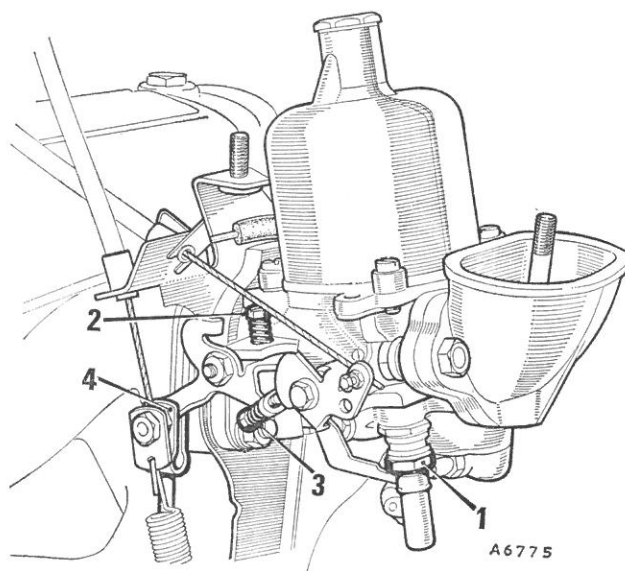

Fig. Da.1
- (6) Connect a tachometer.
- (7) Select 'N' on the gear lever quadrant and apply the hand brake.
- (8) Run the engine until it attains its normal running temperature and adjust the jet as described in Section D.4.
- (9) With the carburetter correctly tuned, adjust the throttle adjusting screw (2) (Fig. Da.1) until a maximum idling speed of 650 r.p.m. is obtained.
- (10) Pull out the choke control to the maximum fast idle position. Check and adjust if necessary the fast idle adjustment screw (3) (Fig. Da.1), to obtain a maximum fast idle speed of 1,050 r.p.m. Push in the choke control and recheck the idling speed.
- (11) Adjust the governor control rod as detailed in Section Fa.2.